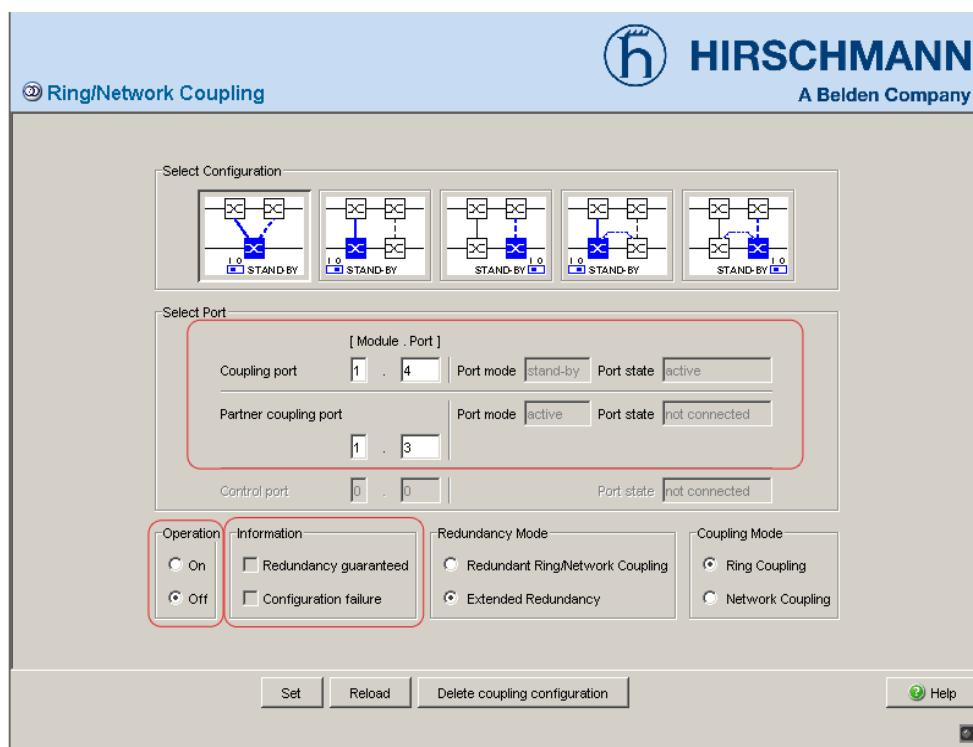

Figure 9: Selecting the port and enabling/disabling operation
- Select the partner coupling port (see fig. 9), (see table 7).
Select the coupling port (see fig. 9), (see table 8).
Activate the function in the “Operation” frame (see fig. 9).
The displays in the “Select port” frame mean (see fig. 9):
The displays in the “Information” frame mean (see fig. 9):